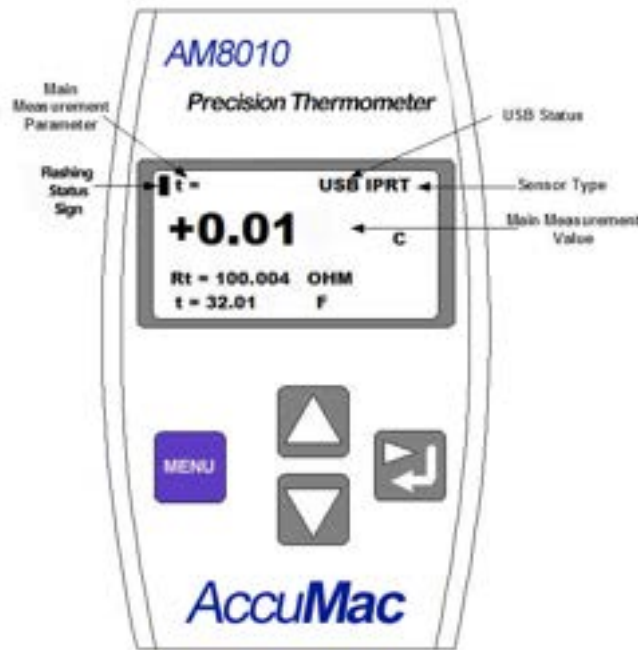

Figure 3-1: AM8010 Front Panel
Figure 3-1 shows the front panel of AM8010 and its parameter display. There are four function keys that are defined as follows:
The temperature measurement results are displayed on the LCD screen. There are four lines of information as shown in Figure 3-1. The main information is temperature in Celsius (C), Fahrenheit (F) and sensor resistance (OHM). The other information includes sensor type, USB connection status, battery low status and no sensor indications.
As shown in Figure 3-1, the top line is the status information line. The information includes: